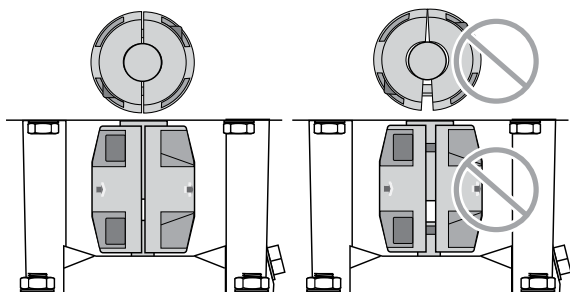

Figure 8 - Make Sure that the coupling halves are evenly tightened
13. Reinstall the coupling (43) on the pump and motor shaft. If the pump has a shaft pin, the pin axially locates the pump shaft. If the pump does not have a shaft pin, then set the coupling so that it grips equal lengths of the pump and motor shaft.
14. Tighten the coupling's socket head cap screws (73). **NOTICE:** Torque settings are critical to prevent coupling movement. If the coupling is not tightened to the correct torque, it could slip on the shaft and overheat and damage both the coupling and the shaft. Refer to Table III, for torque specifications. Be sure to tighten the two halves of the coupling evenly (see Figure 8).